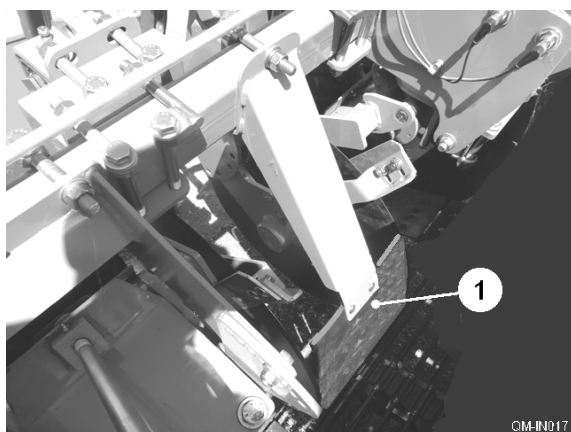

Fig. 8
The anti roll-back flaps (item 1, fig. 8) prevent the crop from rolling out of the front of the main web between the discs coulters and the web sides.
Haulm intake rollers (item 1, fig. 8) may be fitted in place of anti roll-back flaps. The haulm intake rollers draw in loose haulm and trash from the sides of the ridges and feed it onto the main web, thus preventing it from building up on the leading edges of the web sides or between the centre disc coulters. The rollers also prevent the crop from rolling out of the front of the main web between the discs coulters and the web sides. Depending on the width of the digger web and the row width configuration to be lifted, the haulm roller build will vary. Each haulm roller is fitted with a tension spring (item 2, fig. 8) tensioned by an adjuster (item 3, fig. 8). Adjust the tension to give a positive drive on the web bars.